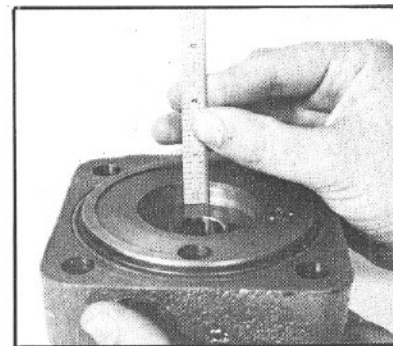

Figure 123
Assemble the valve sleeve (15), with the second thrust washer attached, into the valve housing thrust-washer end first (9). When the valve sleeve is properly in place, the valve sleeve face should measure approximately .400 in. below the face of the valve housing (FIG. 123).